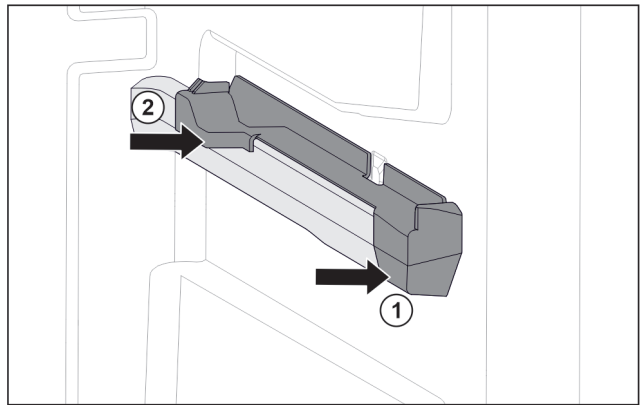

Fig. 148 Attachment on the right molded rib
- ▶ Position attachment on molded rib at the front. Fig. 148 (1)
- ▶ Press on attachment at the back. Fig. 148 (2)